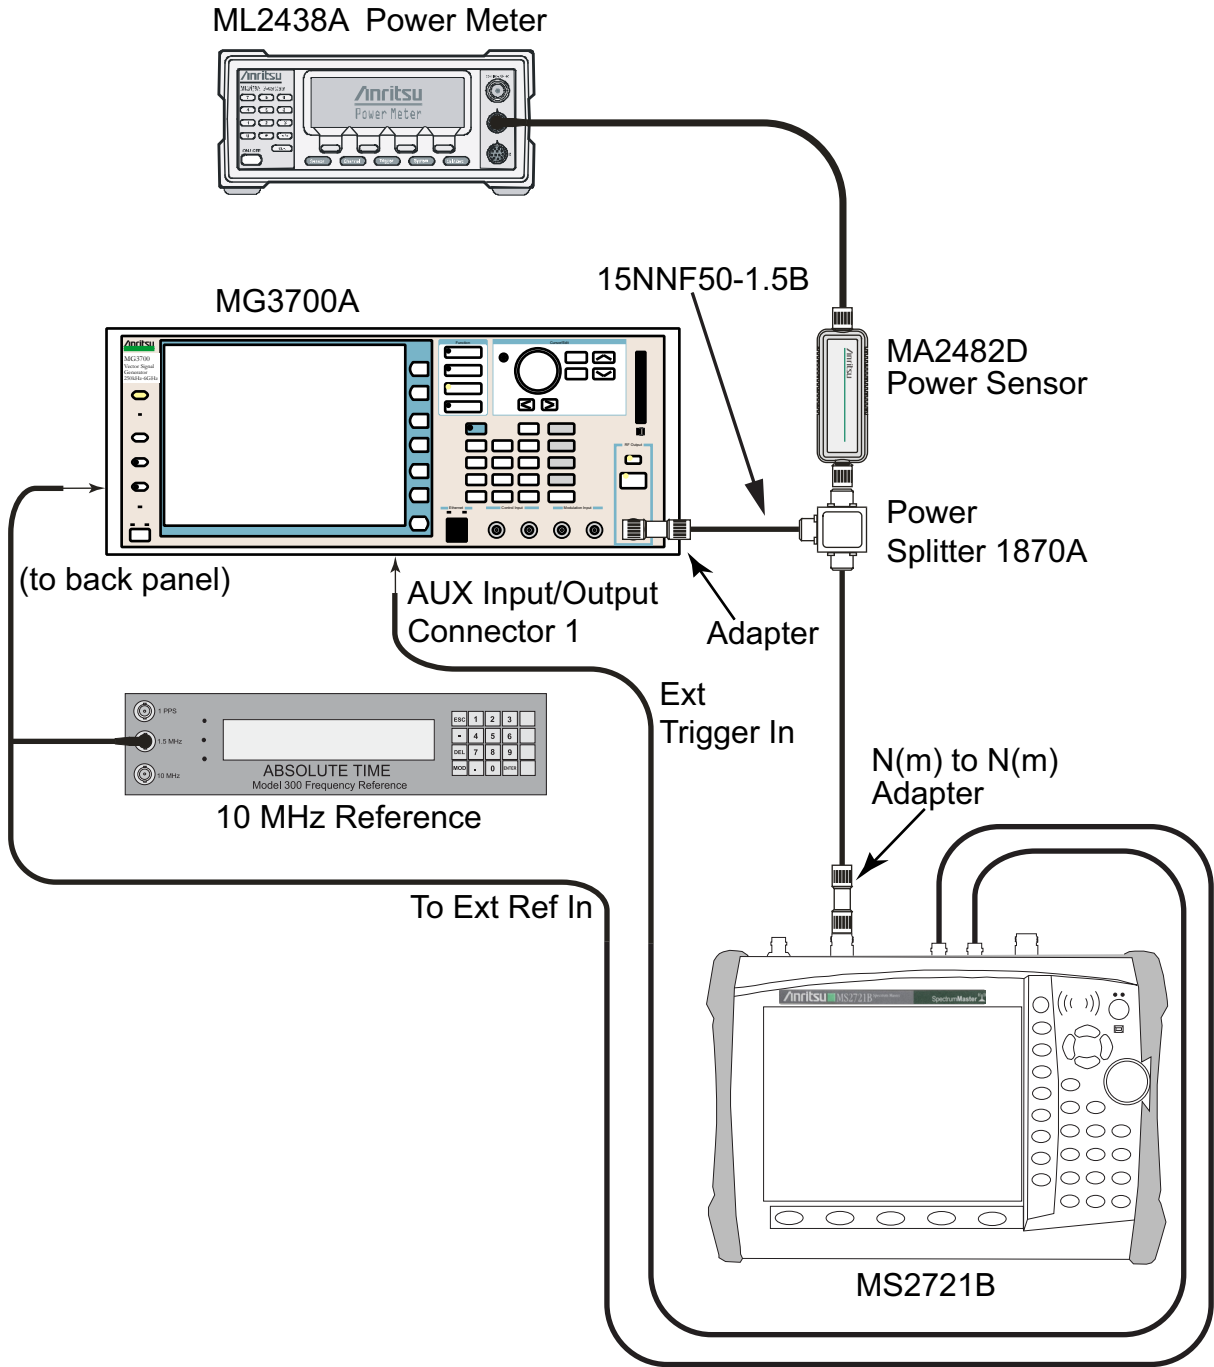

Figure 3-19. EVDO Signal Analyzer Test Setup
1. Connect the equipment as shown in Figure 3-19.